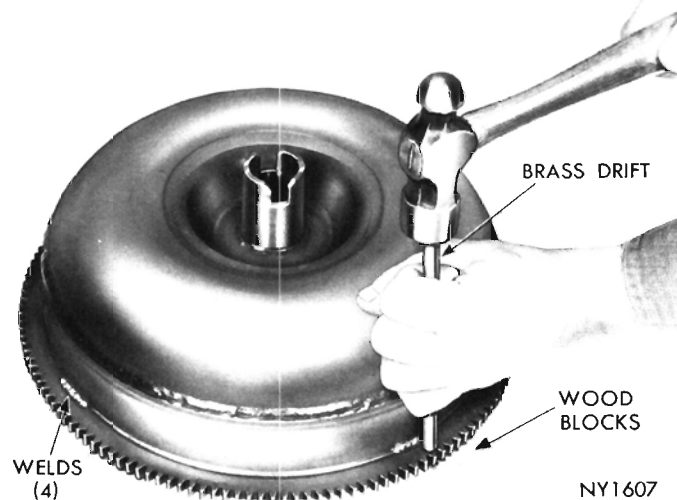

Fig. 62—Removing Starter Ring Gear
(1) Cut through the weld material at the rear side of ring gear with a hack saw or grinding wheel (Fig. 62). Be careful not to cut or grind into the front cover stamping.
(2) Scribe a heavy line on the front cover next to the front face of the ring gear to aid in locating the new gear.
(3) Support the converter with the four lug faces resting on blocks of wood. **The converter must not rest on the front cover hub during this operation.** Using a blunt chisel or drift and hammer, tap downward on the ring gear near the welded areas to break any remaining weld material (Fig. 62). Tap around the ring gear until it comes off the converter.
(4) Smooth off the weld areas on the cover with a file.